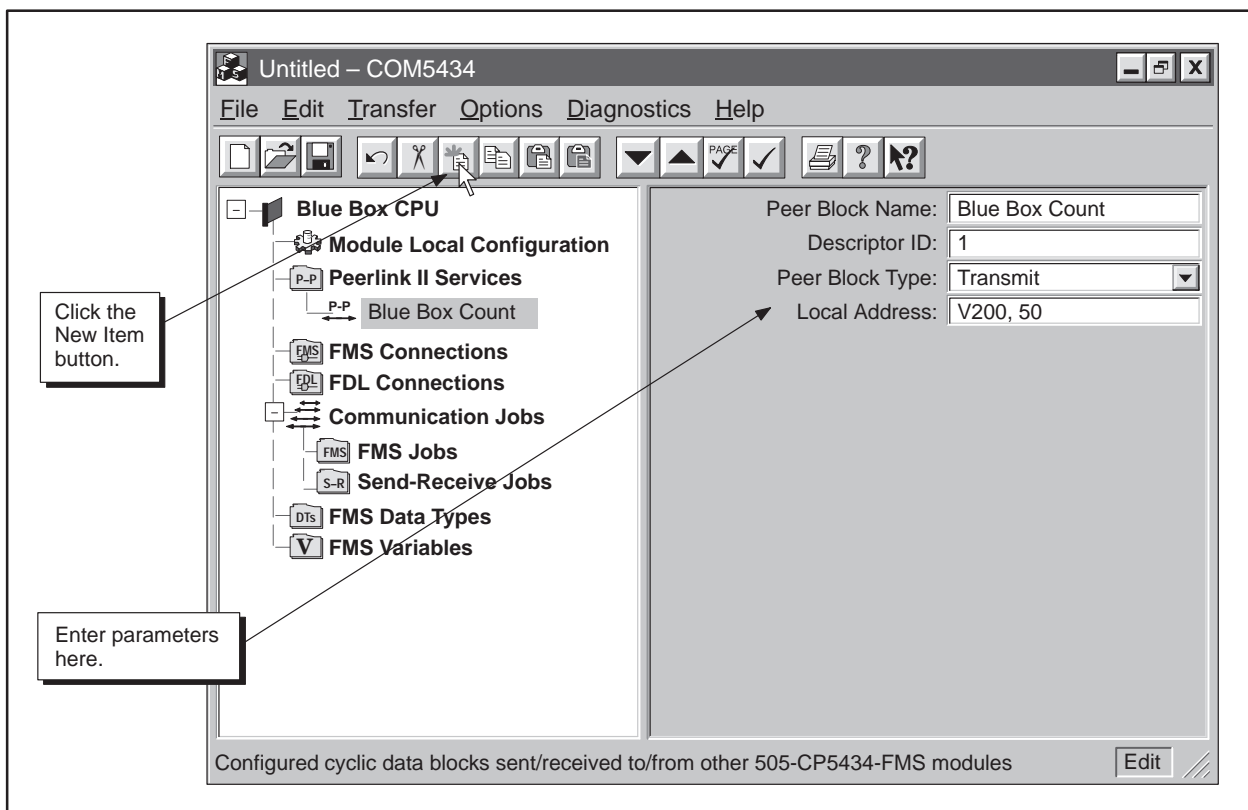

Figure 6-24 Peerlink II Services Example
4. Complete the fields listed below (and shown in Figure 6-24) to configure the Peerlink II Transmit service: